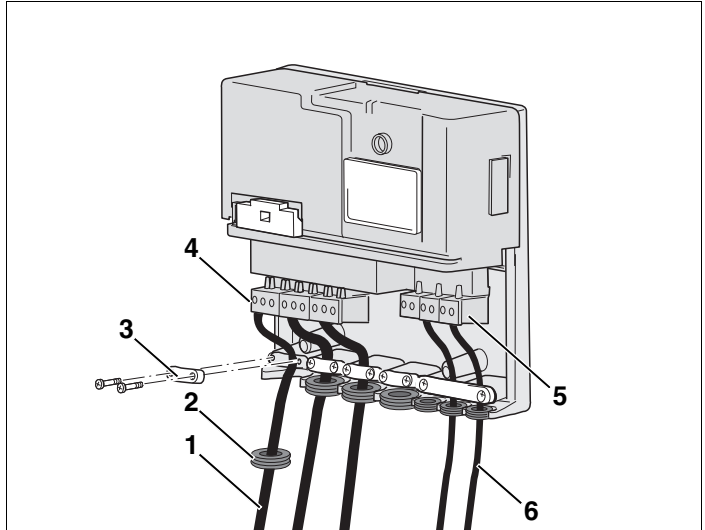

Fig. 11 Electrical supply connections
- Start by fitting the rubber sleeves (Fig. 11, **Item 2**) over the cable.
- Carefully connect the main power cable (Fig. 11, **Item 1**, the bus cable (Fig. 11, **Item 6** and other components to terminals (Fig. 11, **Item 4** and **5** on the function module in accordance with the connection diagram.
- Secure the strain relief devices (Fig. 11, **Item 3**) correctly using the clips provided.